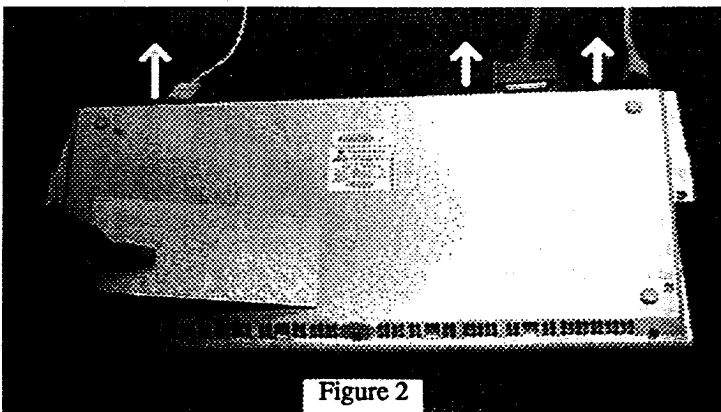

Figure 2
- (1) Make sure your computer is turned off, and all cables are disconnected from the back.
- (2) Turn the 1200 over, so that the keyboard is facing down, on the side closest to you.
- (3) Remove the door covering the expansion slot by inserting a coin or flat-bladed screwdriver into the indentation, and prying off the cover (see Figure 2).